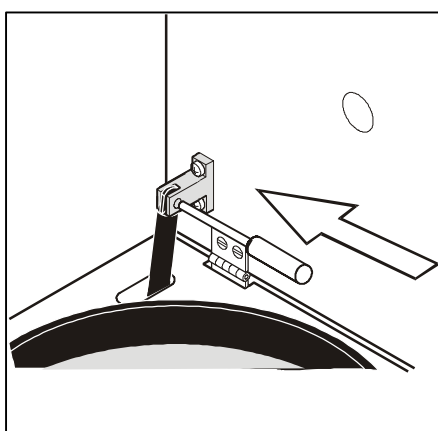

Figure 9
- Remove carefully the joint bolt (116) (Attention - with bolt notches ahead!) for the gas-filled stay (use $\varnothing$ 5 mm pin punch and hammer (Figure 9). Insert a screw driver in order to secure it from shutting itself.